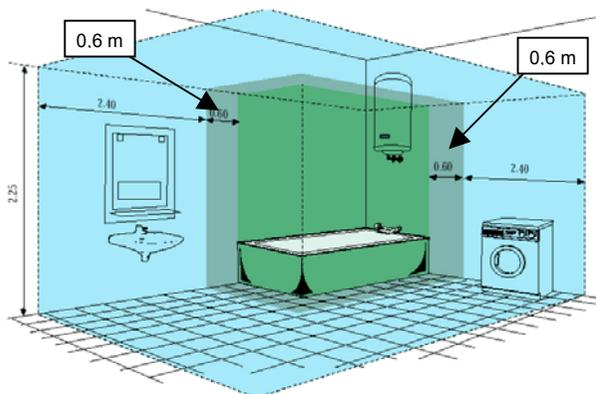

Figure 1: Classification of the Bathroom Zones
- The electronic thermostat can be class I or class II apparatus and it is protected from water contact. In the bathroom it may be mounted in the zone 3 (see figure 1): making it impossible to be touched by person using the bath or shower.